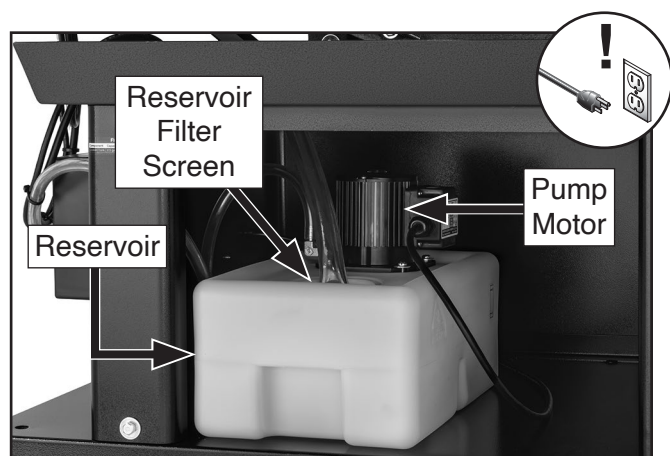
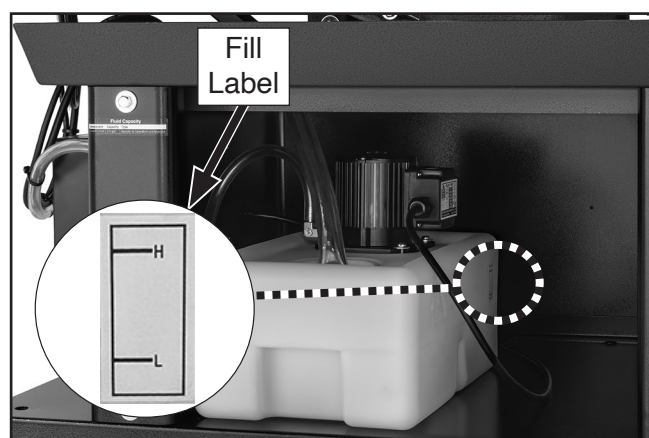

Figure 75. Cutting fluid tank components.
Figure 76. Cutting fluid reservoir fill label.
3. Pour cutting fluid through reservoir filter screen to fill reservoir (see **Figure 75**) until cutting fluid level reaches "H" mark on fill label (see **Figure 76**).
2. Remove reservoir filter screen (see **Figure 75**), empty reservoir into drain pan, and dispose of cutting fluid per federal, state, and manufacturer's requirements.
5. Mix 2½ gallons of cutting fluid according to cutting fluid manufacturer's specifications, then pour cutting fluid through reservoir filter screen until cutting fluid level reaches "high" mark on fill label (see **Figure 76**).